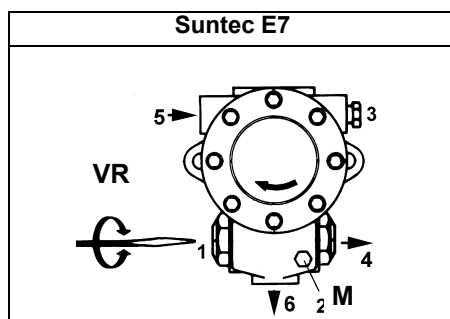
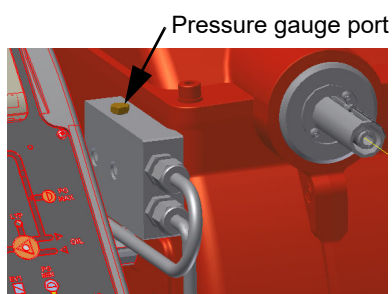

Fig. 8
Fig. 9
- 3 bleed the air from the **M** pressure gauge port (Fig. 8) by loosening the cap without removing it, then release the contactor.
- 5 Only if necessary, adjust the supply pressure as follows (see related paragraph); insert a pressure gauge into the port shown on Fig. 9 and act on the pump adjusting screw **VR** (see Fig. 8) as to get the nozzle pressure at 20bar (Monarch or Fluidics nozzles - see page 41-38).